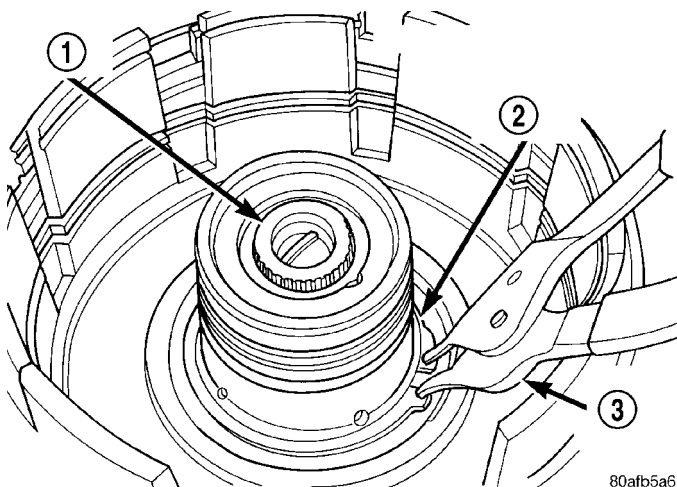

Fig. 230 Input Hub Tapered Snap Ring
(15) Remove input hub tapered snap ring (Fig. 230) (Fig. 236).